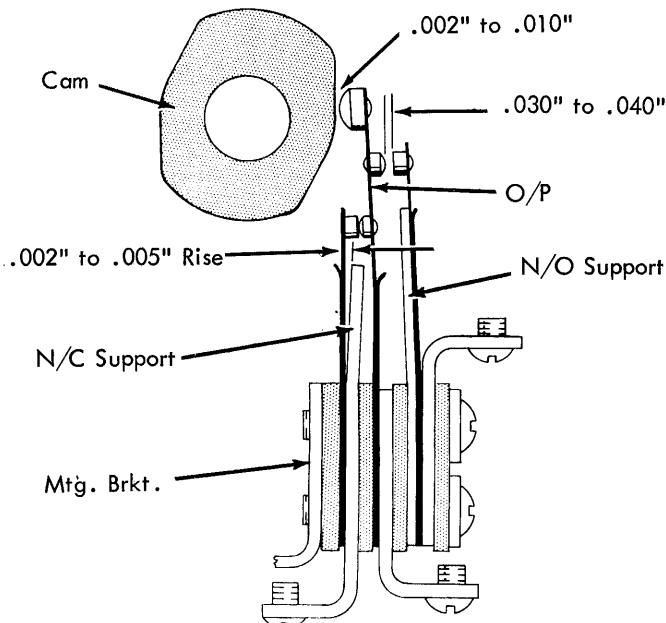

FIGURE 43. Print Feedback Contacts
- Form the N/C supports so that the O/P's lift the N/C contacts .002" to .005" from the N/C supports (Fig.43).
- Position the contact mounting bracket so that the O/P's clear the cam (at the low point) .002" to .010" (Fig. 43).